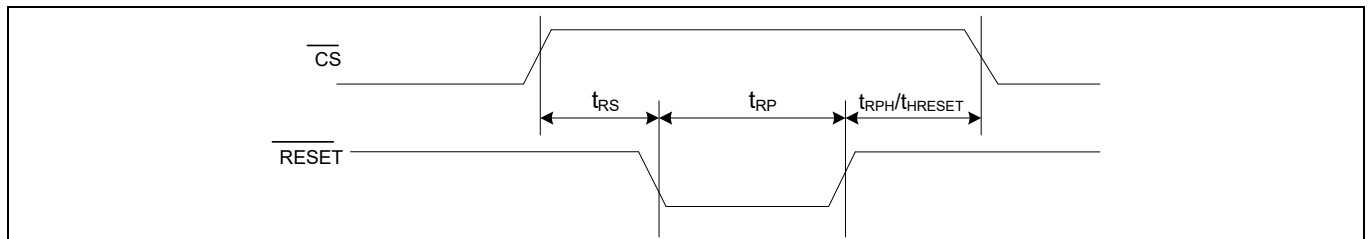
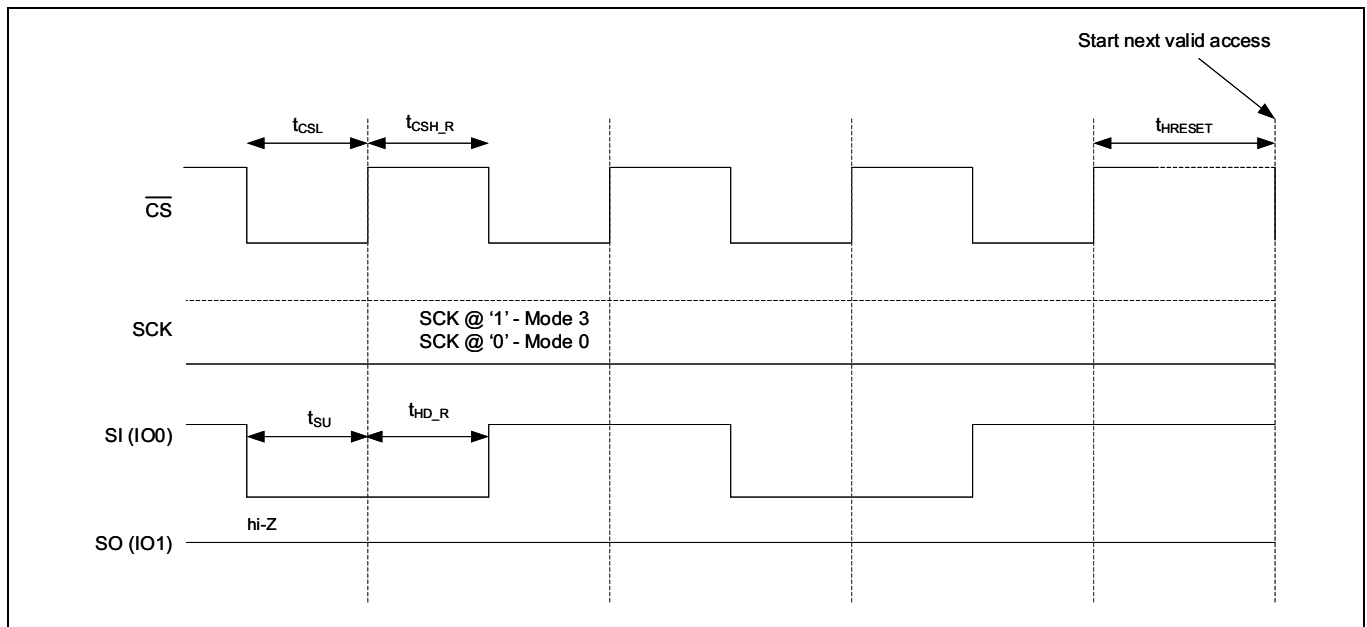

Figure 109 $\overline{\text{RESET}}$ timing - SPI with QUAD set ($\text{CR1}[1] = 1$) or QPI enabled ($\text{CR2}[6] = 1$)
Figure 111 JEDEC SPI reset
The hardware reset input ($\overline{\text{RESET}}$) is multiplexed on ($\overline{\text{RESET}}$ / I/O3) and is an active LOW signal in CY15x116QSN device. Refer to Table 21 for hardware reset ($\overline{\text{RESET}}$) pin configurations across various SPI interfaces. When $\overline{\text{RESET}}$ is pulled LOW, CY15x116QSN self initializes and brings its configuration back to the power up status. Refer to Table 59 for different registers configuration after $\overline{\text{RESET}}$ cycle. Once $\overline{\text{RESET}}$ is issued, CY15x116QSN takes $t_{\text{RPH}}/t_{\text{HRESET}}$ time from $\overline{\text{RESET}}$ rising edge to complete the reset cycle. CY15x116QSN becomes inaccessible during t_{RPH} time. Figure 109 to Figure 111 show the $\overline{\text{RESET}}$ timings in different reset mode.
- The $\overline{\text{RESET}}$ pin is multiplexed on I/O3 in the QPI mode. When using the hardware ($\overline{\text{RESET}}$) in QPI mode, the [CR2 \[5\]](#) bit must be set to '1' to enable to use I/O3 as $\overline{\text{RESET}}$ input when $\overline{\text{CS}}$ is HIGH. Figure 109 shows the $\overline{\text{RESET}}$ / (I/O3) timing in QPI mode
Refer to **Figure 111** for timing details.